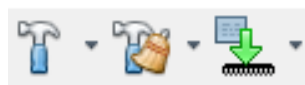

Figure 20: MPLAB X Clean and Build Main Project button
4. Go to **Run** → **Clean and Build Main Project** or click the *hammer with brush* button as seen in Figure 20. After building there should be a message BUILD SUCCESSFUL in the message area at the bottom of the screen.
5. If the build process was successful go to **Run** → **Run Main Project** or click the *Green Arrow* button as seen in Figure 20. If there is a message similar to *MICROSTICK not Found* try to select the *Starter Kits (PKOB)* item which represents your board.